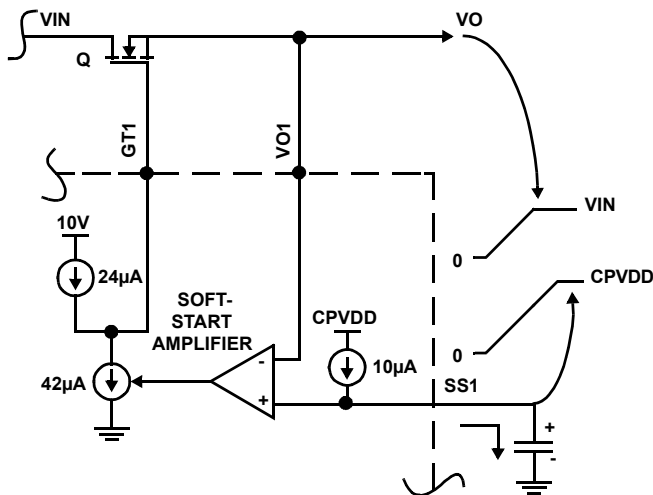

FIGURE 15. SOFT-START OPERATION
The output voltages are monitored through the Vo pins and slew up at a rate determined by the capacitors on the Soft-start (SS) pin, as illustrated in Figure 15. 24µA of gate charge current is available. The soft-start amplifier controls the output voltage by robbing some of the gate charge current thus slowing down the MOSFET enhancement. When the load voltage reaches its set level, as sensed by its respective UV pin through an external resistor divider, the Power Good ($\overline{\text{PG}}$) output goes active.
I_{INRUSH} is the sum of the DC steady-state load current and the load capacitance charging current. If the DC steady-state load remains disabled until after the soft-start period expires (PGX could be used as a load enable signal, for example), then only the capacitor charging current should be used as I_{INRUSH} . The C_{SS} value should always be more than $(1/2.4)$ of that of C_{ISS} of the MOSFET to ensure proper soft-start operation. This is because the C_{ISS} is charged from $24\mu A$ current source, whereas the C_{SS} gets charged from a $10\mu A$ current source (Figure 15). In order to make sure both V_{SS} and V_O track during the soft-start, this condition is necessary.